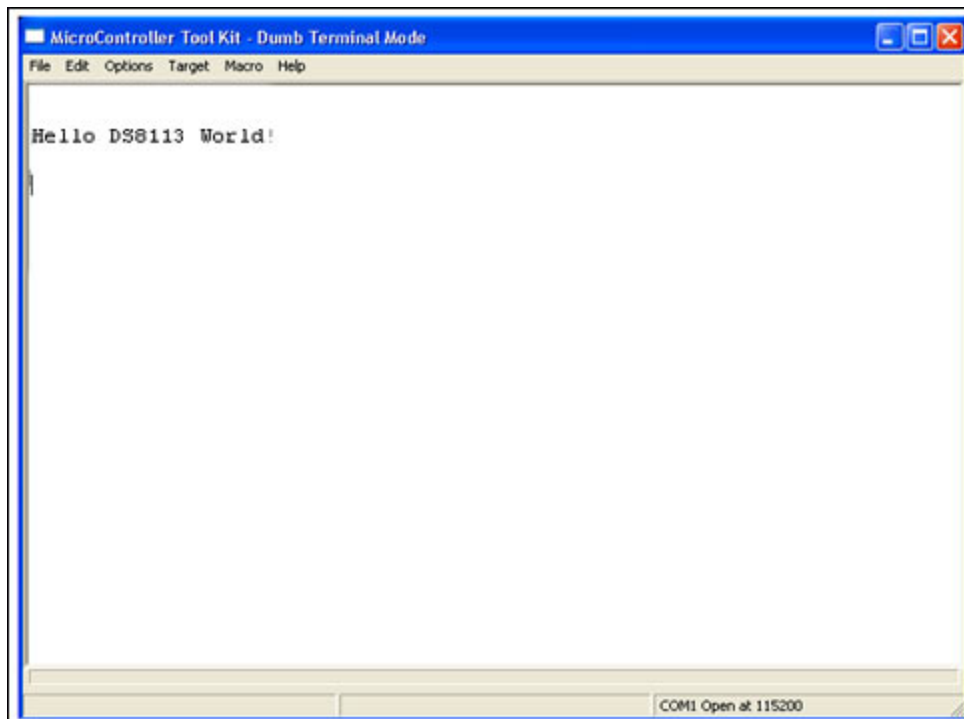

Figure 5. Output screen.
5. Finally, connect 5V power directly to the EV kit board at J1, and toggle the power switch, SW5, toward the DB-9 connector to apply power to the board. The MTK screen should display the "Hello DS8113 World!" message shown in **Figure 5**. Powering the board OFF and then ON